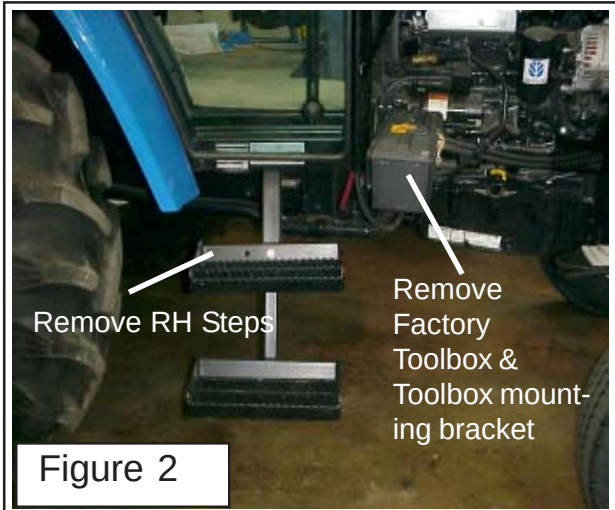

Figure 2
2. Remove RH Side Steps. The steps on the RH side of the tractor will be removed and not used so as not to interfere with the clearance of the mower head. The factory toolbox will need to be removed also for clearance. It will be dealer and/or customers choice on where and whether the toolbox is remounted somewhere else for use. (See Figure 2 & 3).